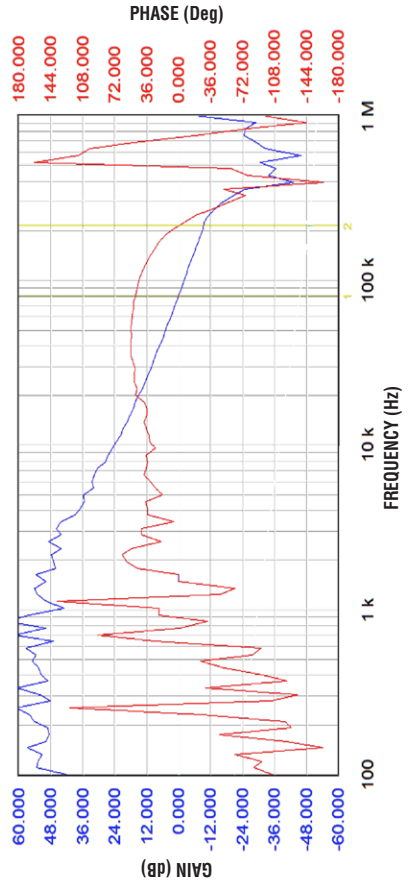

Figure 26. LTM4630-1 2-Phase, 1V at 36A Design with  $\pm 3\%$  Transient Response
**Table 4. Output Voltage Response vs Component Matrix (Refer to Figure 26) Load Step Typical Measured Values**